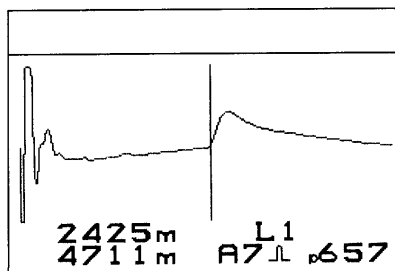

Figure 13
4. Increase the AMP control in steps adjusting the balance control to achieve a clear indication of the fault (figure 13).